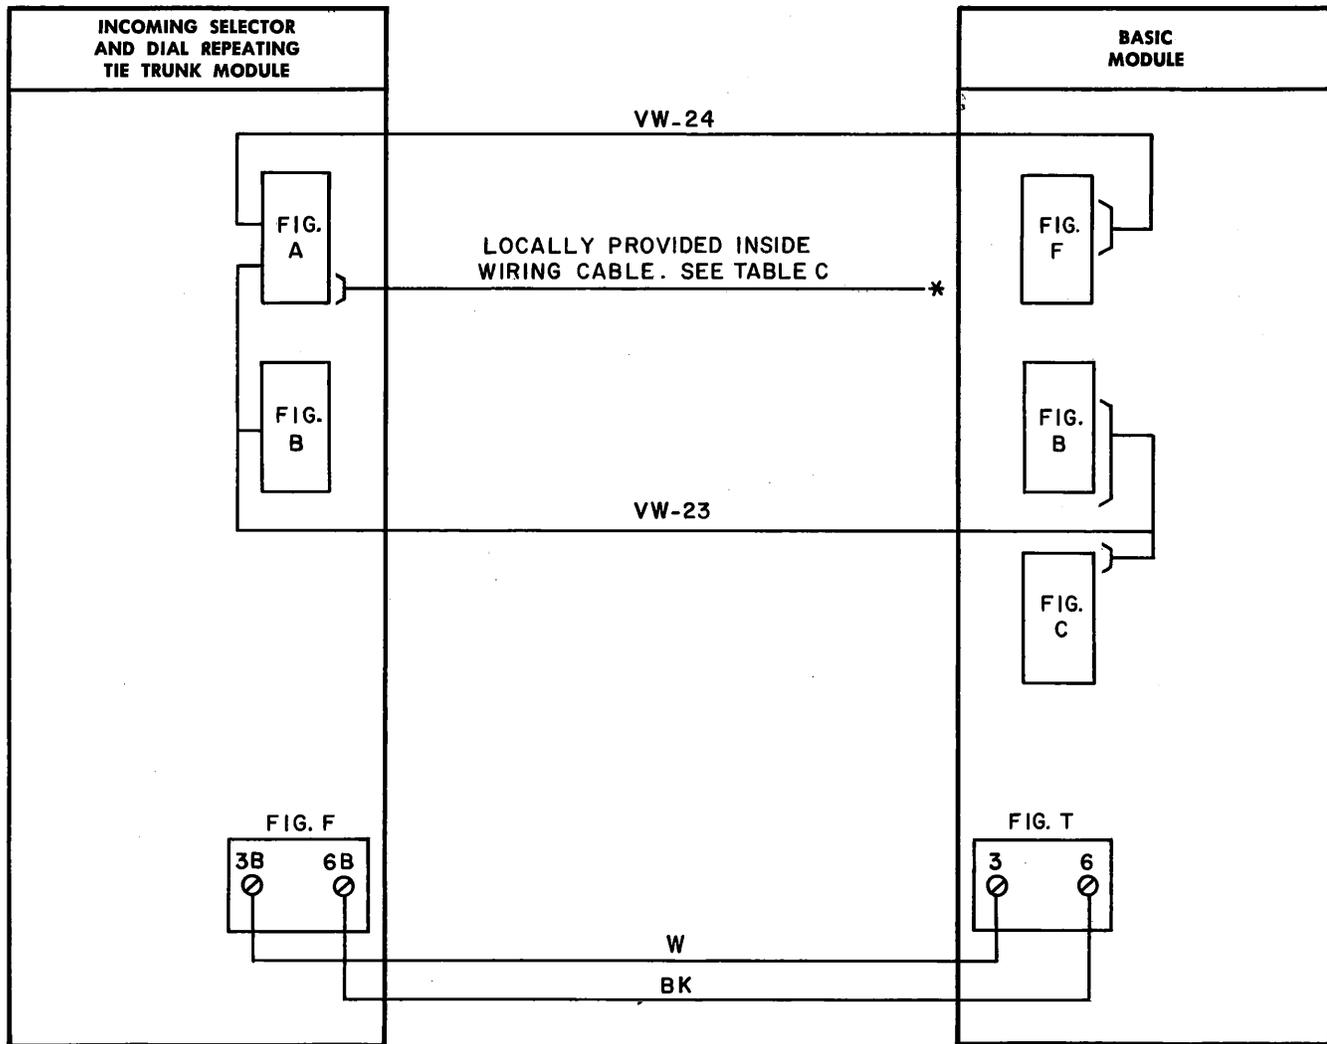

Fig. 1 — Cables and Power Leads for Connecting Incoming Selector and Dial Repeating Tie Trunk Module To Basic Module
2.01 Figure 1 provides a connection schematic for placing and connecting the various cables required for connecting the incoming selector and dial repeating tie trunk module to the basic module of the 701PK PBX system.
2.03 The connection tables in this section are self-explanatory. Cables and power leads not shown in connection tables should be connected in accordance with Figure 1.